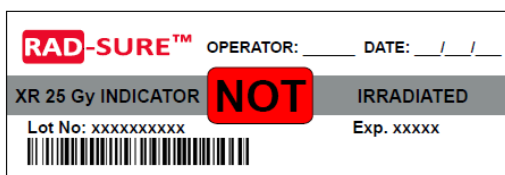

Figure 1a
2. Remove a sheet of Rad-Sure™ XR indicators from the box. Look for the word "NOT" in the window of each indicator. Do not use an indicator unless the word "NOT" is clearly visible (see Fig. 1a).